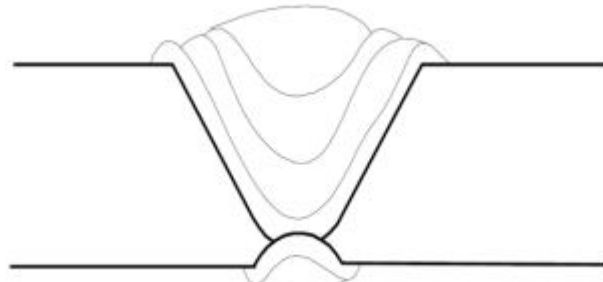

Fig. 4. - Filled channels on material top and bottom side
- 13 Proceed as in steps 7-10 (Fig. 4).